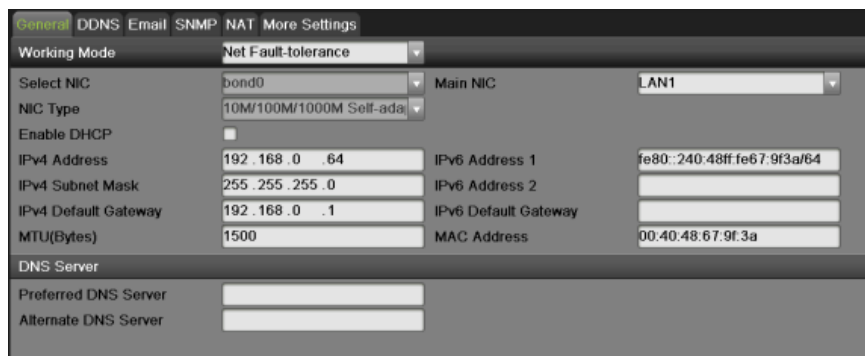

Figure 63 Network Settings Menu
2. Select the General tab. The current network settings are displayed on the right side of the menu, shown in Figure 63.